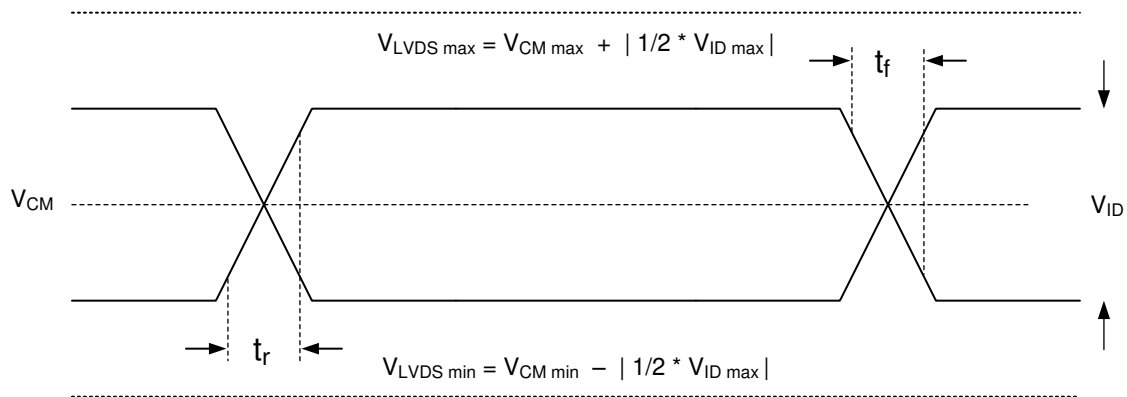

Figure 5-5. LVDS Waveform Requirements
- (10) Refer to Figure 5-5.
- (11) Simultaneous exposure of the DMD to the maximum Section 5.4 for temperature and UV illumination reduces device lifetime.
(2) See Figure 5-5 for timing requirements for LVDS.
(3) Channel C (Bus C) includes the following LVDS pairs: DCLK_CN and DCLK_CP, SCTRL_CN and SCTRL_CP, D_CN(15:0) and D_CP(15:0).
(4) Channel D (Bus D) includes the following LVDS pairs: DCLK_DN and DCLK_DP, SCTRL_DN and SCTRL_DP, D_DN(15:0) and D_DP(15:0).